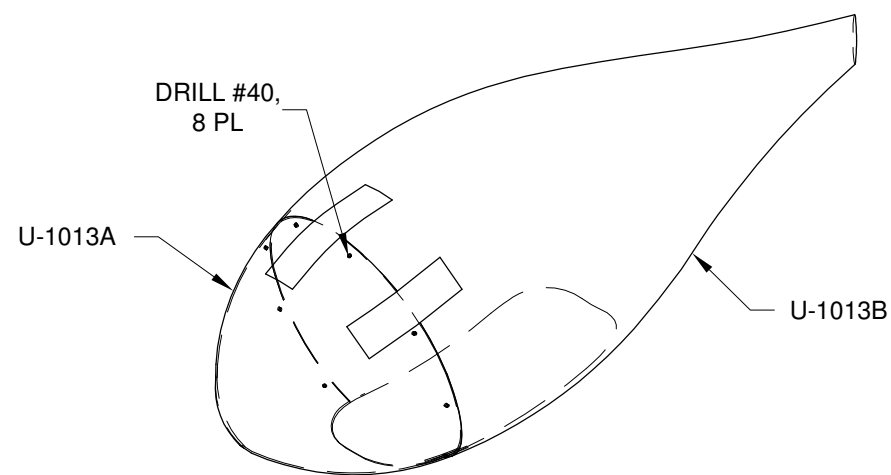

FIGURE 2: DRILLING FAIRINGS
Step 3: Drill #40 the U-1013A Wheel Fairing Front and the U-1013B Wheel Fairing Rear screw locations as per the callout in Figure 2 installing clecos along the way. Begin at the top and progress toward the bottom of the fairing. Take apart and clean-out debris as necessary after drilling each hole.